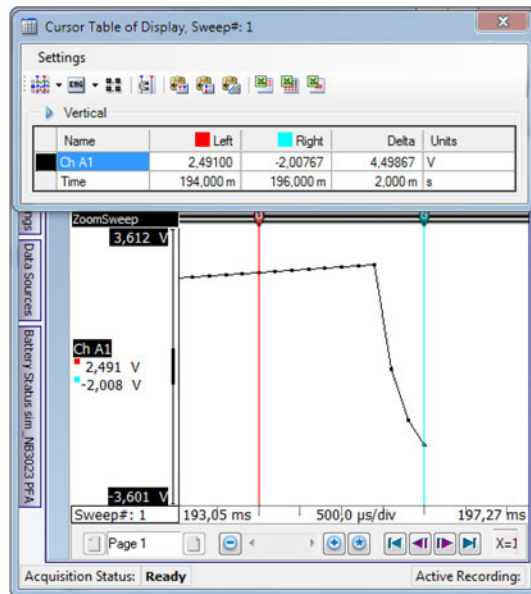

Figure J.11: Sample recording 3
- Next sample recorded (sample of blue cursors, see Figure J.11)